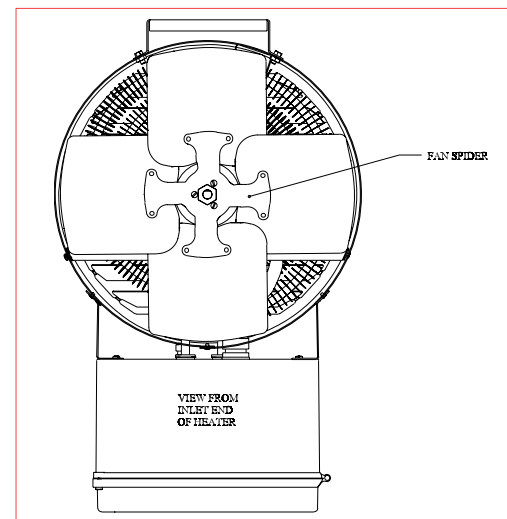

Figure 8
2. Replace fan with factory-supplied fan. Install the fan such that the "spider" of the fan (see Figure 8) faces the outside of the heater (i.e., facing away from the motor). The spider should be visible from the rear of the heater (as shown in Figure 8).